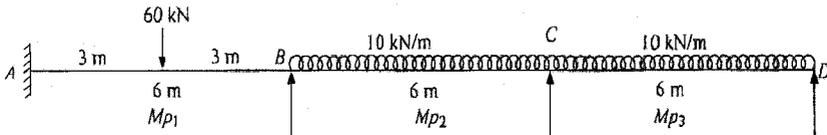

Fig. 5.1.
- (a) A continuous beam $ABCD$ consists of three equal spans AB , BC and CD , each of length 6 m. The end A is fixed while simple supports are provided at B , C and D . The beam is subjected to the collapse load system shown in Fig. 5.1. Find the plastic moments required for each span, for the condition of simultaneous collapse of all the spans. Assume that the section for the middle span is lighter than the sections of the outer spans.